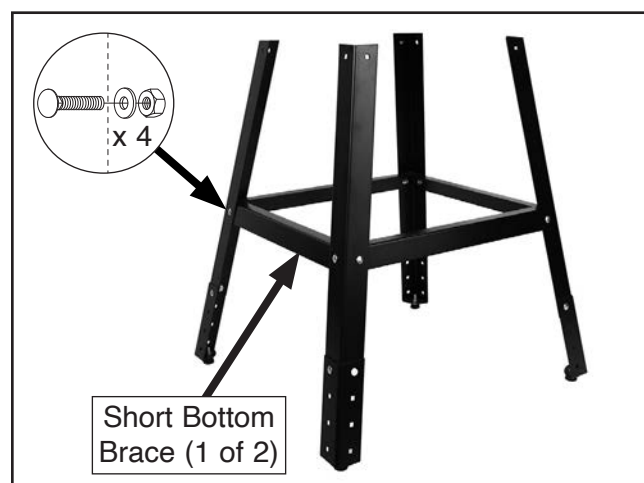

Figure 5. Leg assemblies attached with short bottom braces.
4. Repeat **Step 3** with remaining (1) long bottom brace and (2) legs.
5. Attach (2) leg assemblies with (2) short bottom braces, (4) $\frac{5}{16}$ "-18 x $\frac{1}{2}$ " carriage bolts, $\frac{5}{16}$ " flat washers, and $\frac{5}{16}$ "-18 hex nuts, as shown in **Figure 5**.